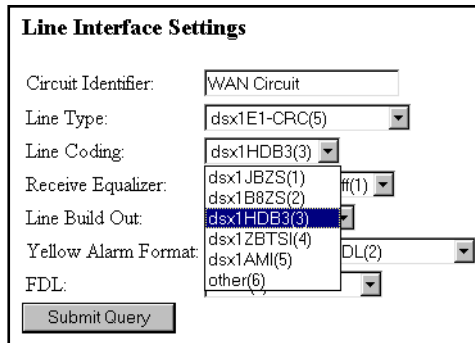

Figure 39. Line Coding pull-down menu with dsx1HDB3(3) selected
- From the *Line Coding* pull-down menu (figure 39) select *dsx1AMI(5)* or *dsxHDB3(3)*. Most installations will use HDB3.